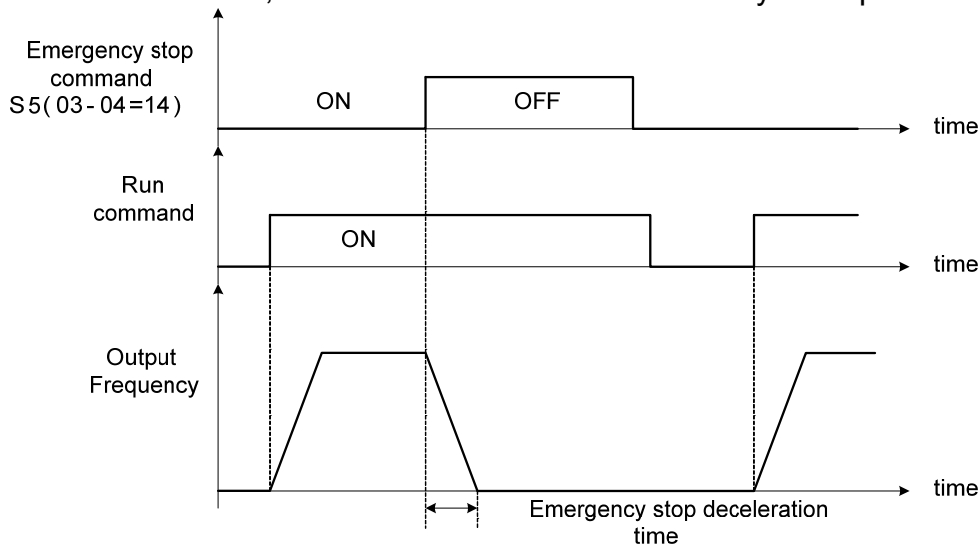

Figure 4.3.9 Examples of emergency stop
- . After the emergency stop command is input, before the inverter stops, it can not be restarted. If the emergency stop is cancelled, please turn off the operation command and emergency stop command. Please refer to Figure 4.3.9.